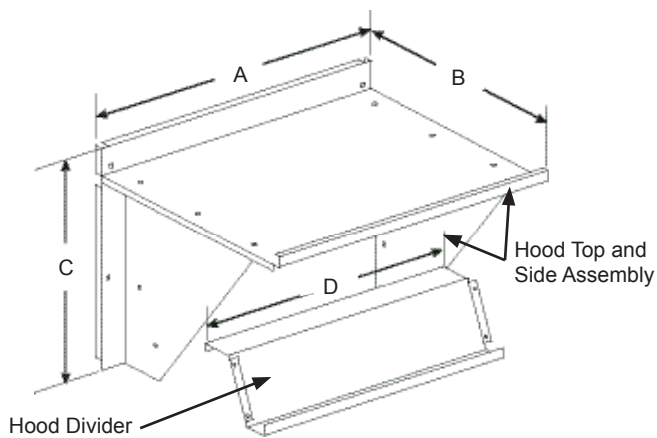
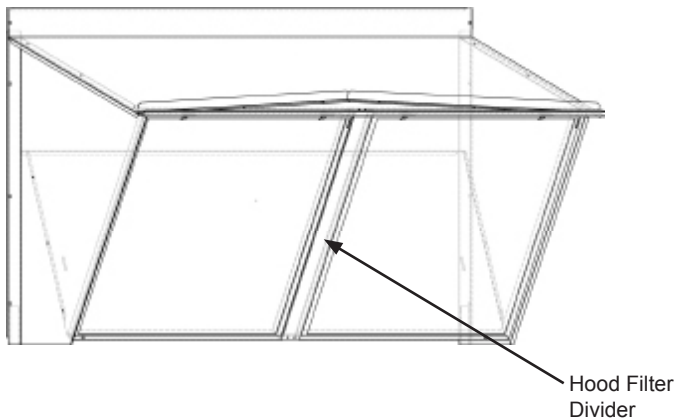

Fig. 3 - Hood Assembly
Fig. 4 - Hood for Extra Large Cabinet
5. Insert the hood divider between the hood sides. (See Fig. 3) Secure hood divider with 2 screws (provided) on each hood side. Screws should go through the hood sides into the divider. The hood divider is also used as the bottom filter rack for the aluminum filter. On hood for extra large cabinet install filter divider. (See Fig. 4.)
12. Some economizer hoods require that the hood divider be field installed into hood per Fig. 3. Install economizer hood over the economizer. Use screws provided see Fig. 3.